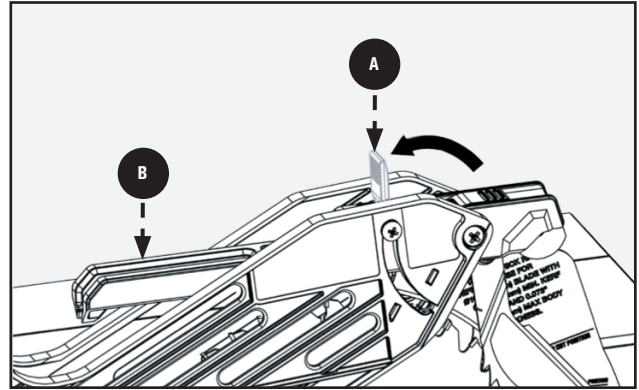

FIGURE 16
3. See Figure 16 (next page). While holding down on the front of the support arms of the Guard press the Blade Guard Lock Tab down until it snaps into the locked position. Check to make sure the Guard is locked onto the Riving Knife by pulling on the Guard. If the Guard is not locked, the Blade Guard Lock Tab will flip up to the unlocked position.
See Figure 16.